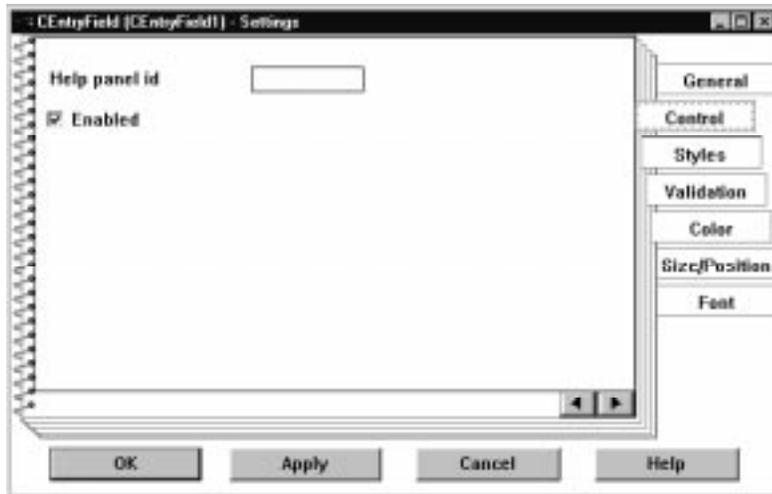

Figure 84. The Control page of an entry field part's settings notebook
3. Select the **Control** page. It is similar to Figure 84 on page 209.
2. Select the **Control** page. It is similar to Figure 84.